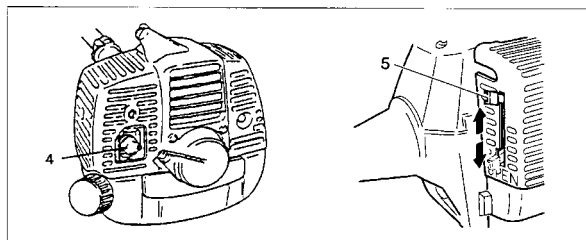

Fig. 2-2B
1. Set ignition switch (1) to ON position.
*Push priming bulb (4) several times so that fuel flows through bulb into carburetor. (if so equipped)(Fig. 2-2B,3)
2. With the safety lever (2) pressed (if so equipped), pull throttle trigger and push lock button (3), then slowly release the throttle trigger first, then the safety lever. This will lock the throttle in starting position.
3. Set choke lever to CLOSED position (5). (Fig. 2-2B,3)